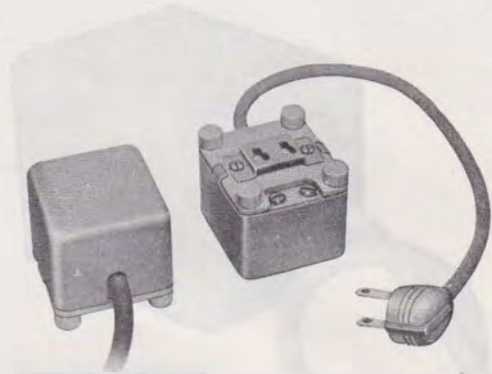

Fig. 7—2075A Transformer
5.01 The 2075A transformer (Fig. 7) supplies power (15 to 18 volts) for the 41A dial in the 660-, 662-, 663-, and 664-type telephone sets.